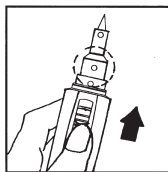

Fig. 5
6. Allow the tip to heat for 3–5 seconds. The ceramic element inside begins to turn red from the heat. Then the soldering iron/heat gun nozzle is ready for use. See Fig. 5.